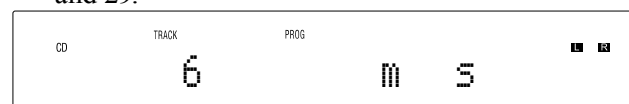

Figure 28
2. Enter the first desired selection (track 6) using the Numeric Push-buttons. The Front Panel Display will first indicate track 6 followed by indicating the total number of tracks and total playback time for the current program. Refer to figures 28 and 29.